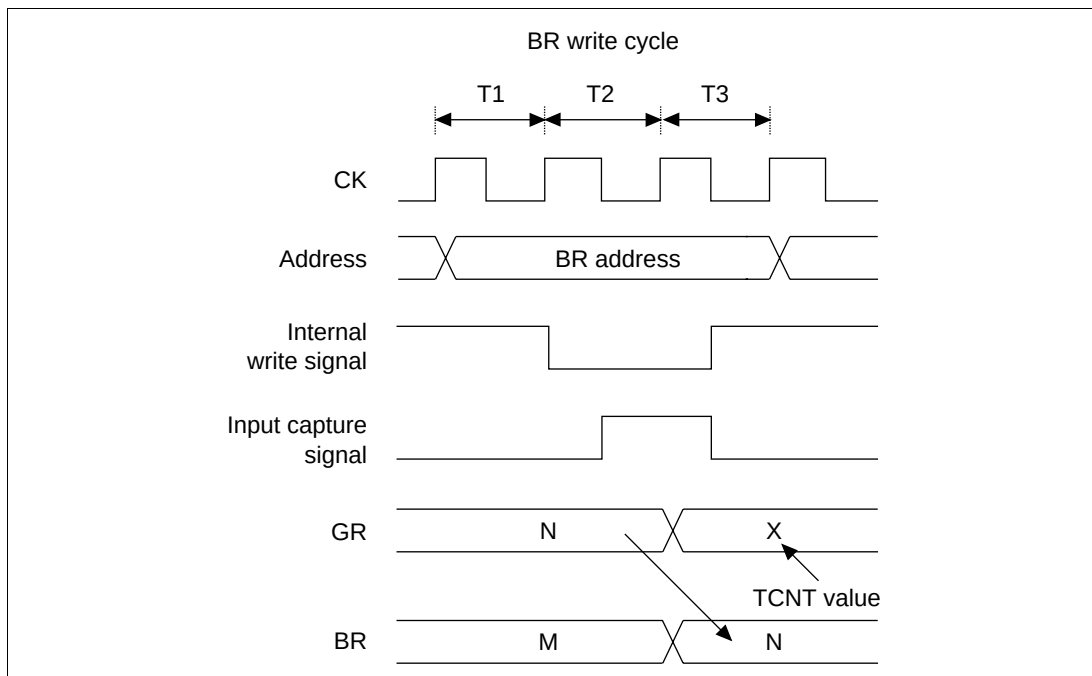

**Figure 10.66** Contention between BR Write and Input Capture
When a buffer register (BR) is being used as an input capture register and an input capture signal is generated in the T3 state of the write cycle, the buffer operation takes priority over the BR write. The timing is shown in figure 10.66.